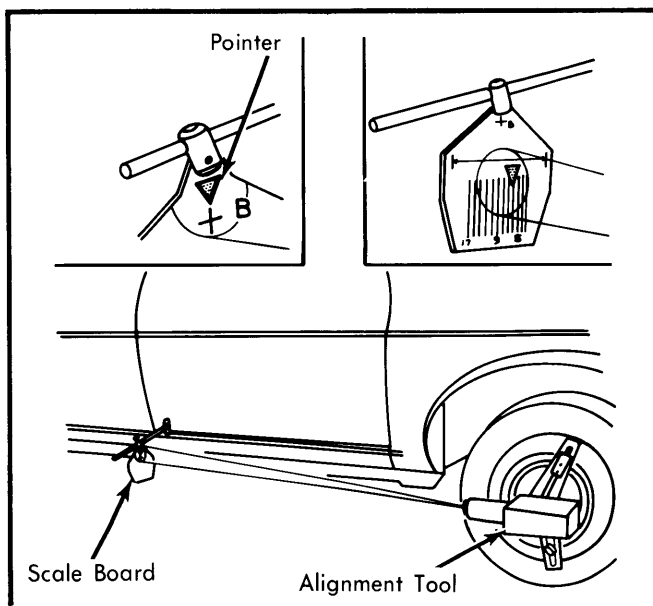

Fig. 1 Measurements for Steering Gear
2) Load front of vehicle until measurement from centerline of front wheel to bottom of lower frame member (at front wheel) is $4\frac{5}{16}$ " (110 mm). Mount scale boards (T. Av. 552) on side of body so distance from wheel center to board is $51\frac{3}{16}$ " (1.30 m). See Fig. 1.